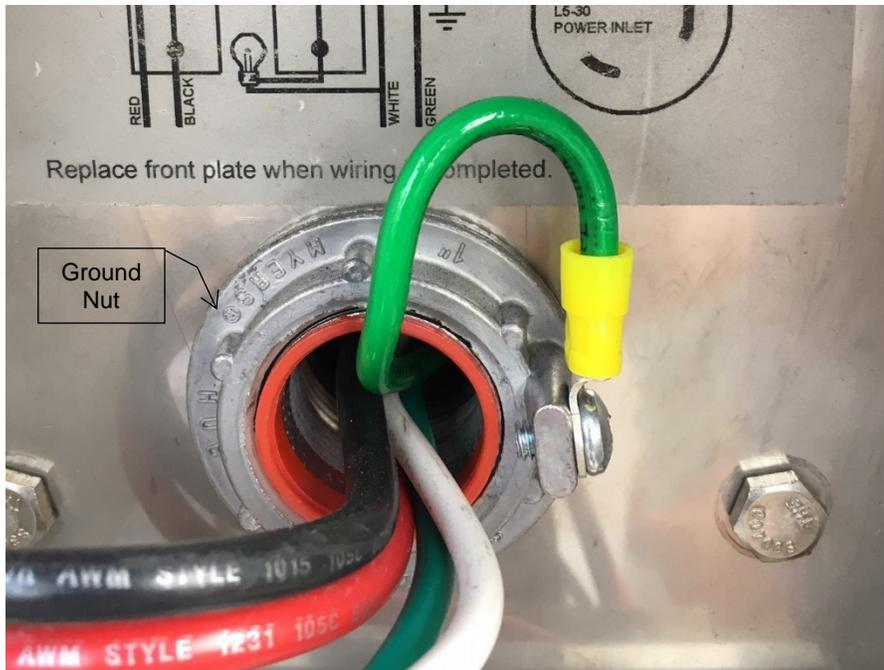

Figure 2 Ground Nut inside Transfer Switch Enclosure
- b. The ground nut is placed in the transfer switch enclosure (Figure 2).